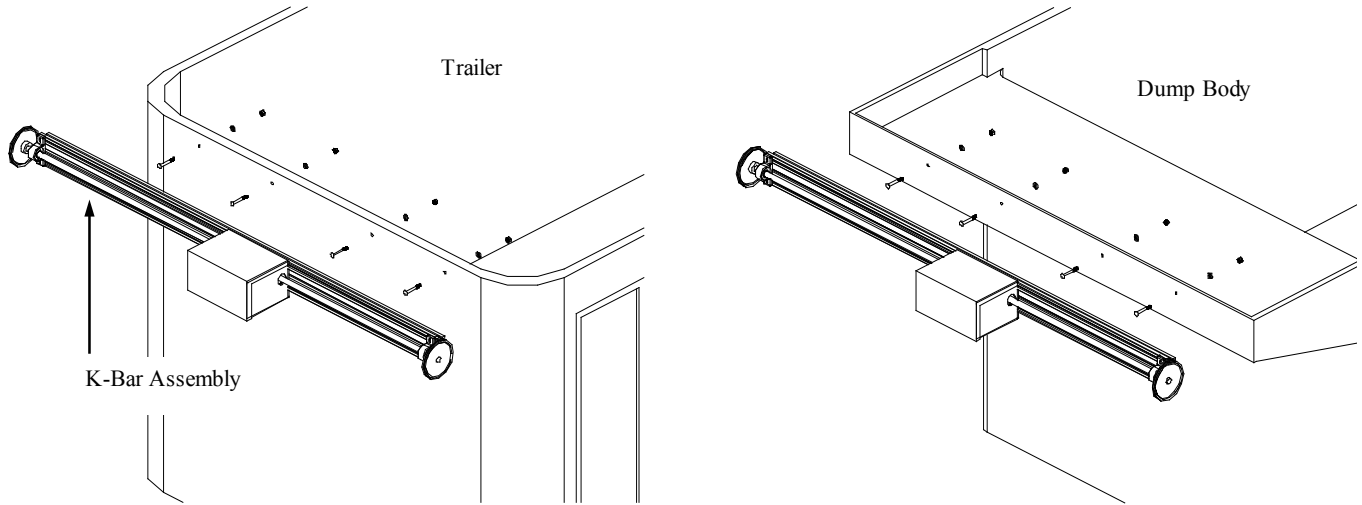
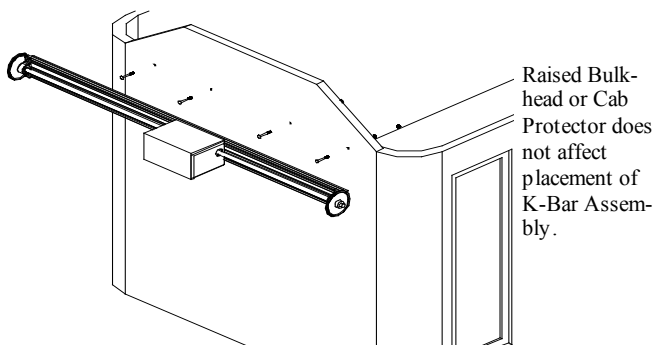

Figure 1
Figure 1a
**Installing the K-Bar Assembly (Outside Mount),** *see figure 1.* First, measure in 18" from outside of the top rail or cab protector, then measure down 2-1/2" from the top of the top rail or other surface where the bows will be riding and make a mark at this point on each side of the body or trailer (note: if the cab protector or bulkhead is raised, the system should be mounted 2-1/2" below the top of the side walls or top rail or other surface where the bows will be riding, *see figure 1a*).